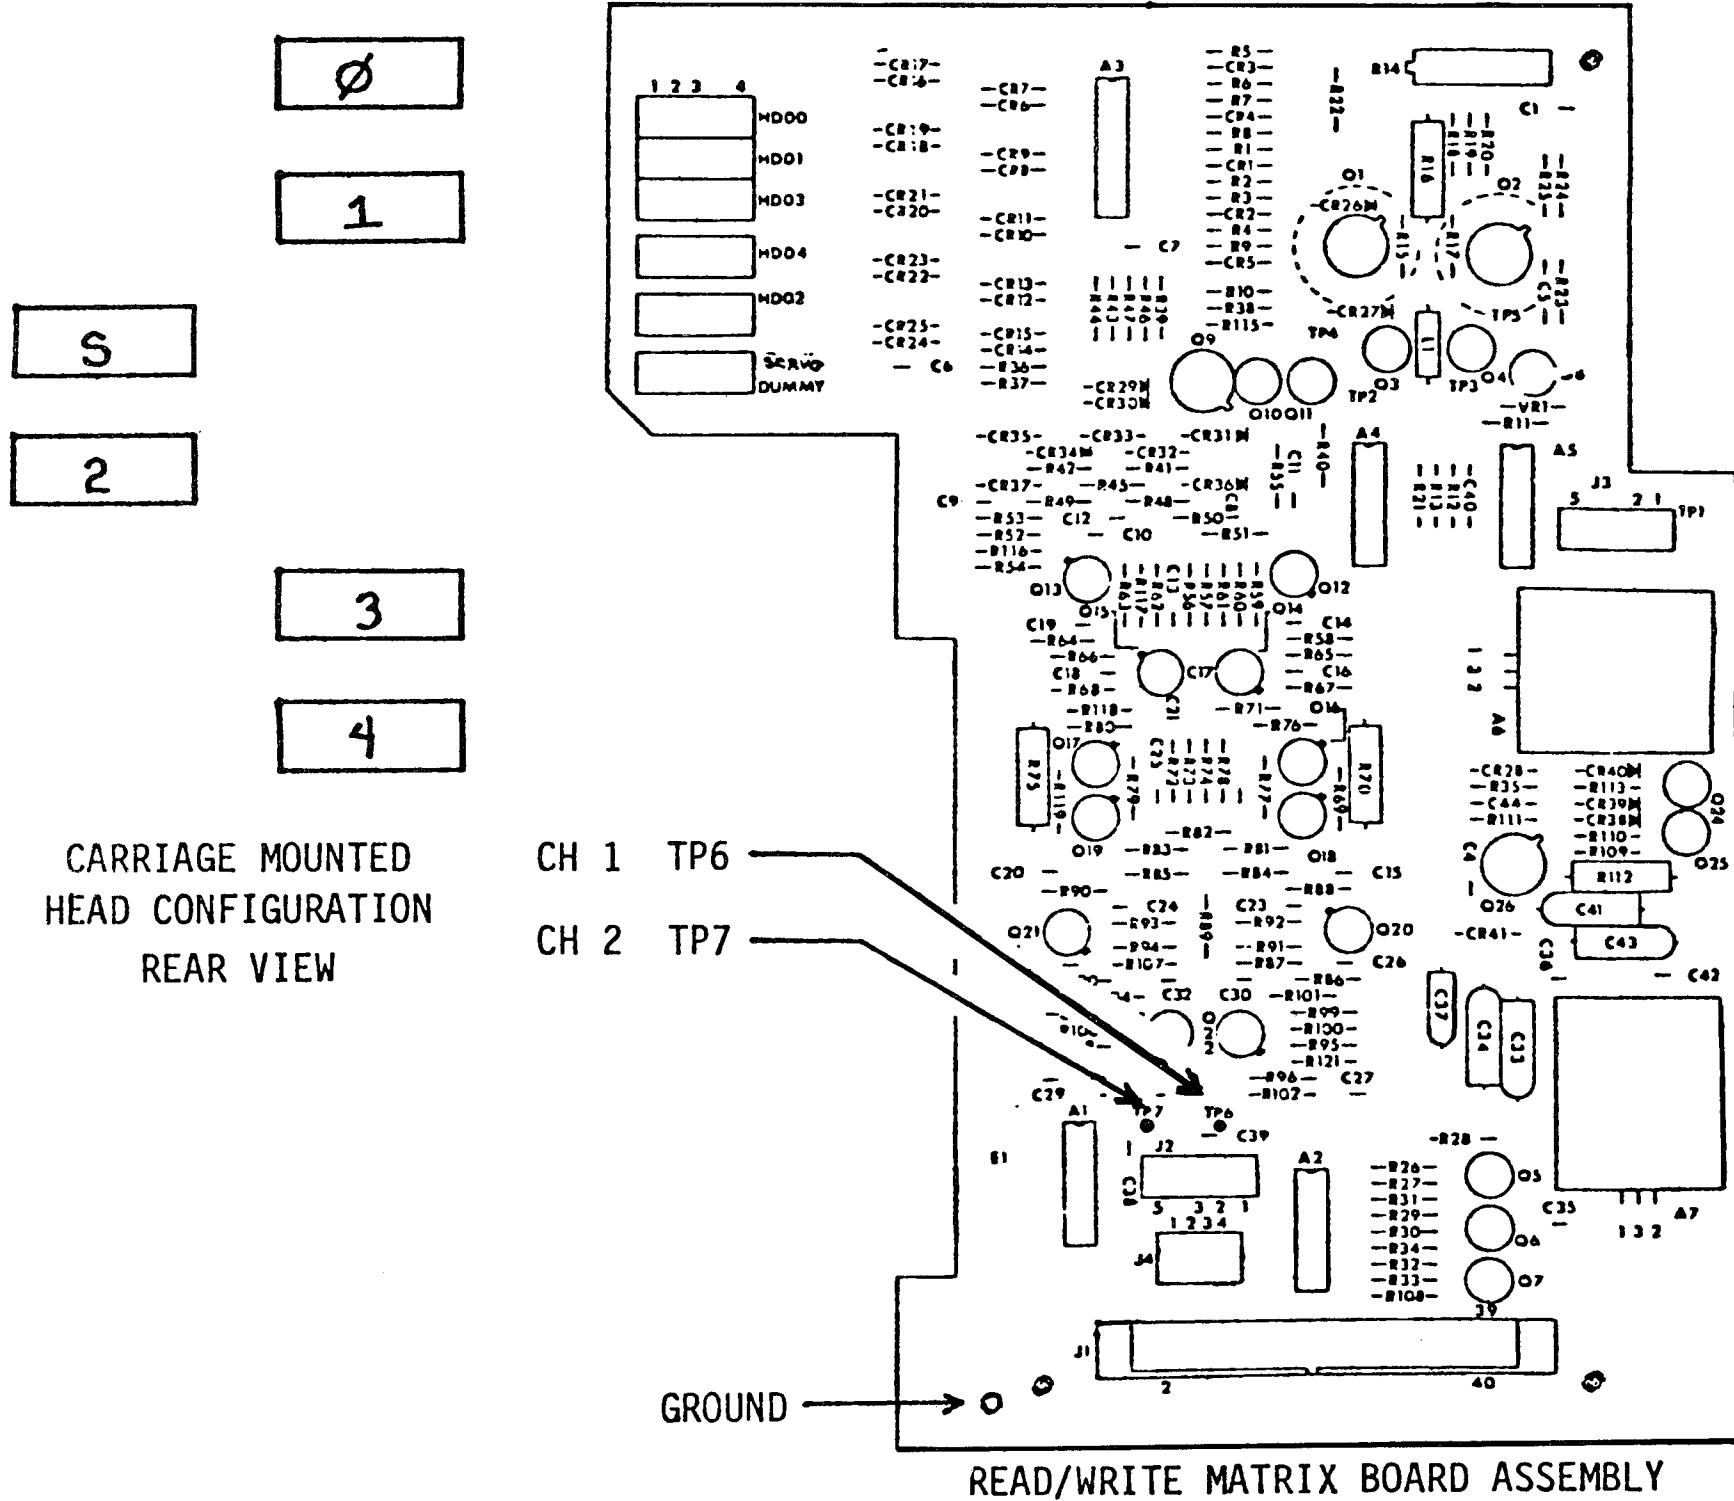
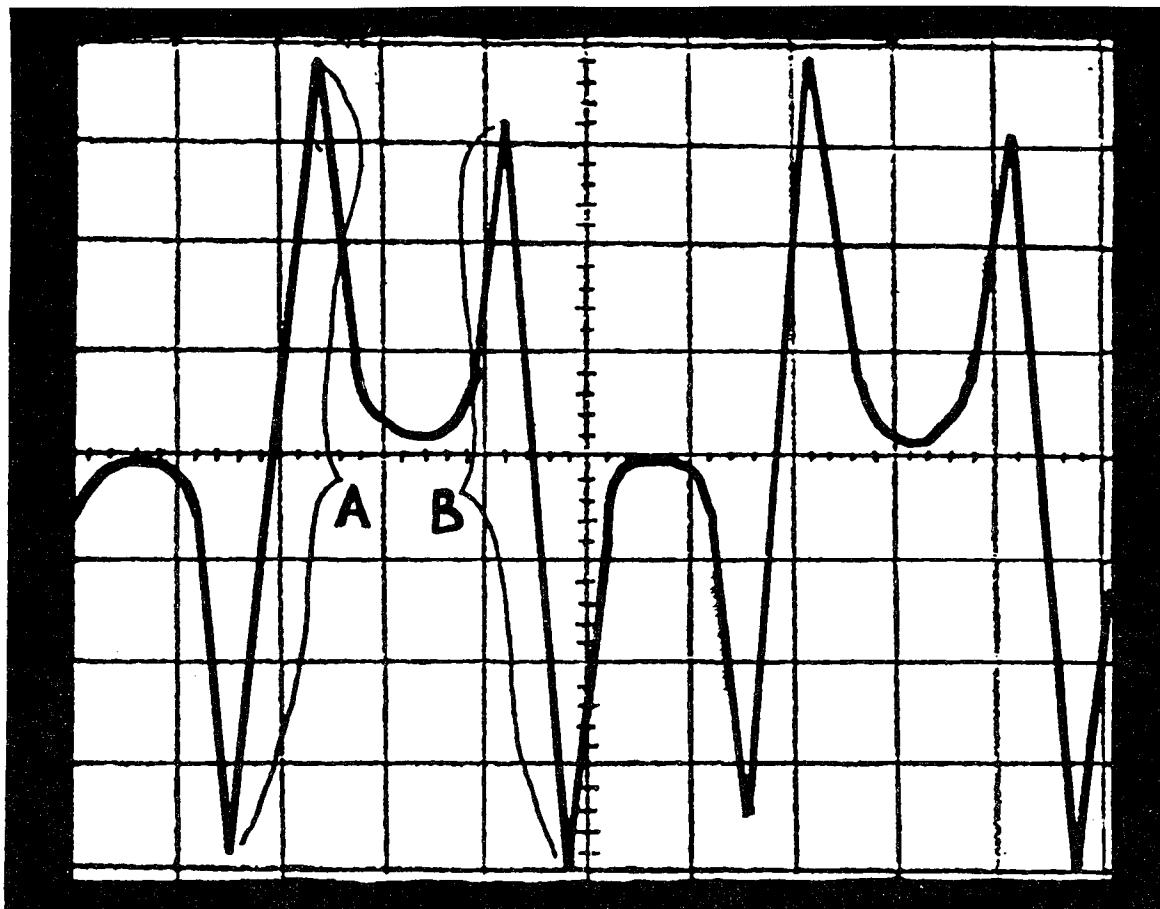

Figure 3-3. Read/Write Heads and Matrix Board Configuration
Figure 3-4. Ideal Dibit Pattern
9. Set up the oscilloscope as follows (see Figure 3-3).
10. The dabit pattern shown in Figure 3-4 should be displayed on the oscilloscope. Adjustment of the scope sync may be necessary to display a good trace for each head.
A comparison is made between amplitude arm A and B for equal amplitude (Figure 3-4). Alignment is accomplished when arm A and B are equal in amplitude.
12. Loosen the mounting screw for the head to be aligned and torque it to 20 inch-ounces (see Figure 3-3 for head location). Adjust the head (see Figure 3-4), equal amplitude of arms A and B. Torque the mounting screw to 80 inch-ounces and recheck alignment. Don't lean on the drive during alignment as this will cause the alignment to change slightly.